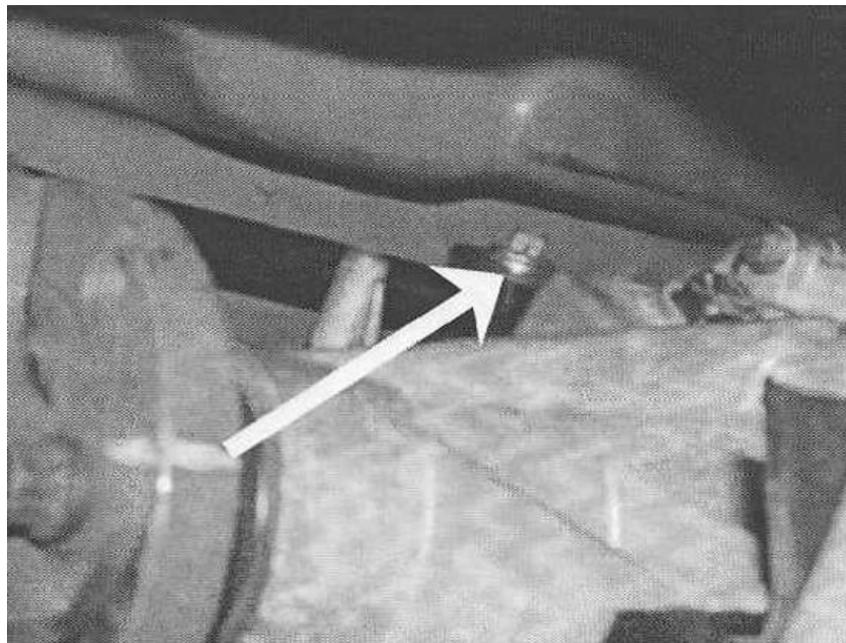

Figure 5
8. Using a 10mm wrench, remove the front bolt that secures the shifter assembly arm to the transmission (Refer to Figure 5).